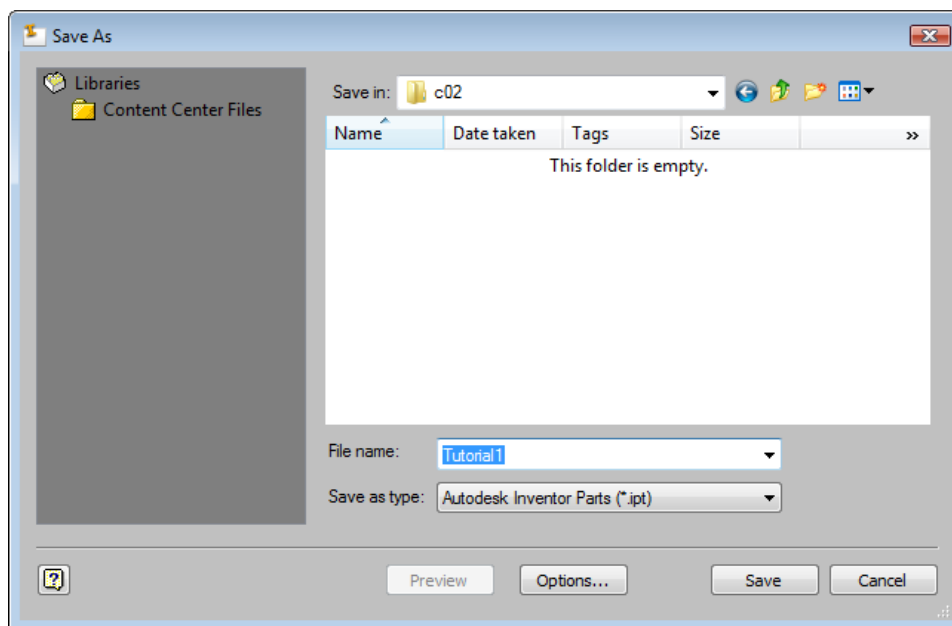

Figure 2-59 The Save As dialog box
4. Enter **Tutorial1** as the file name in the **File name** edit box, refer to Figure 2-59, and then choose the **Save** button from the **Save As** dialog box to save the sketch.